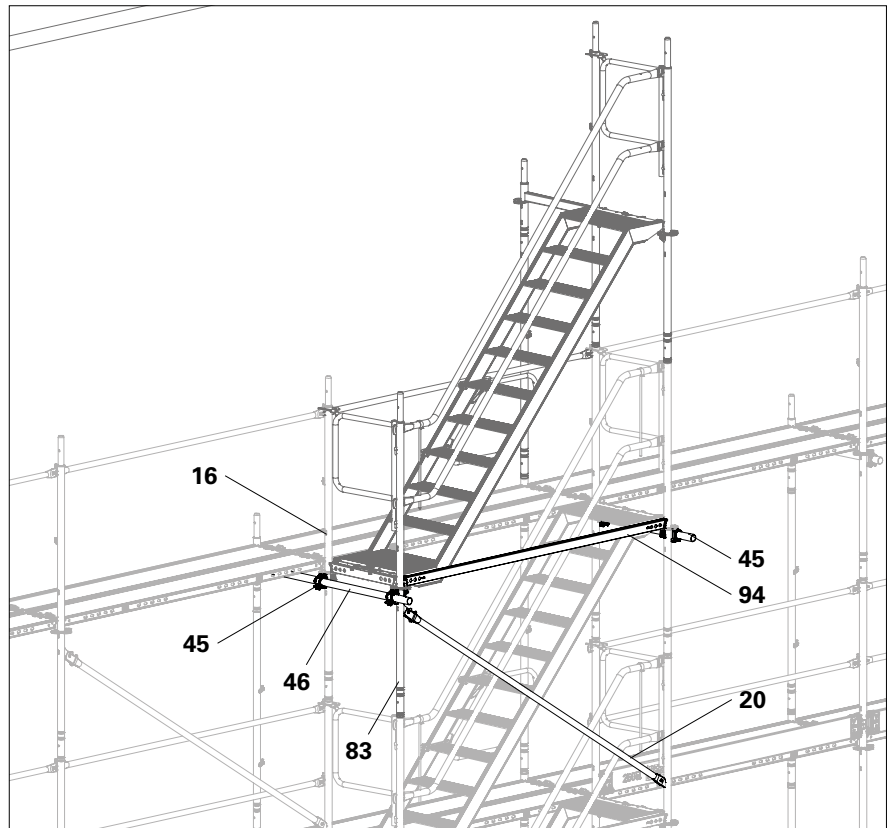

Fig. B8.09
- Anchor the Wall Tie UWT (**46**) to both tubes of the Easy Frame EVF (**16**) as well as the Easy Standard EVM (**22**) using one Wall Tie Coupler EWC (**45**) or standard coupler each. (Fig. B8.09)